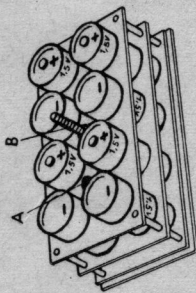

Fig. 2
3. Take care to fit the batteries in the right way. The plate in the bottom part of the battery holder will allow contact to be made only when the batteries have been fitted correctly. To make sure, have another careful look at fig. 2
4. For the battery holder to be inserted correctly, pin "A" must fit into hole "A" in the holder. (See figs. 2 and 4).